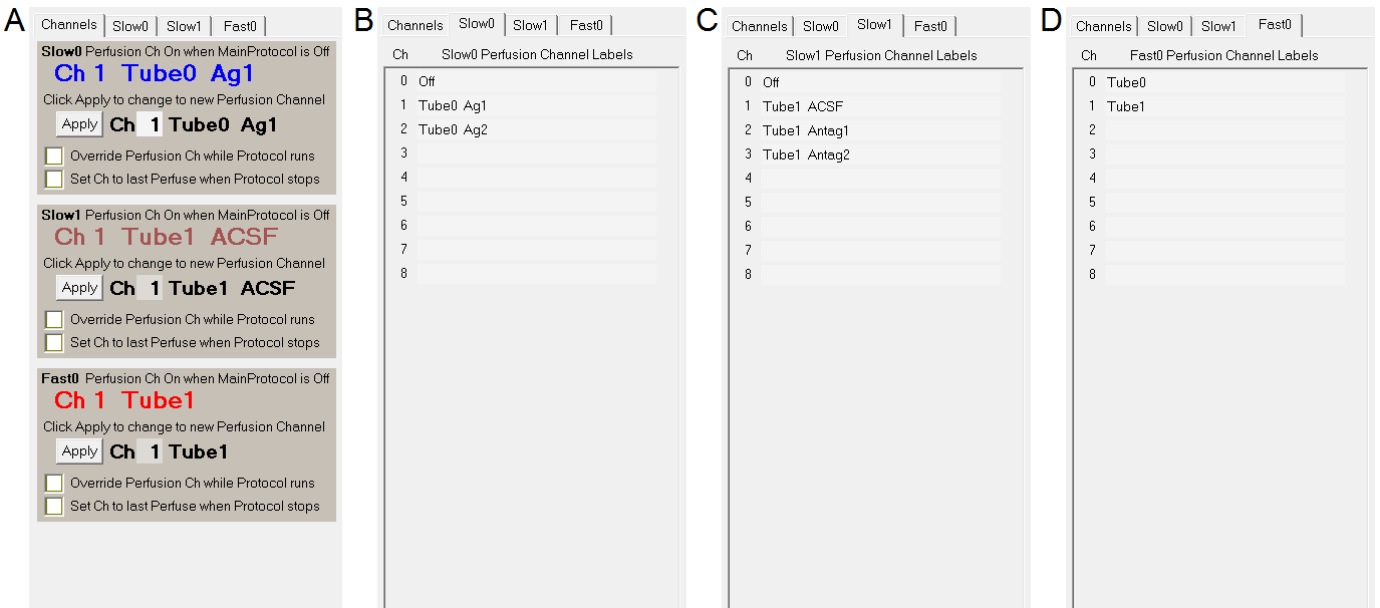

Fig. 10.4.1.3. Setting up the perfusion channel number and label information for the Dual-Line/Stepper example.
The way that WinLTP can control a Dual-Line/Stepper perfusion system is shown in Fig. 10.4.1.1. Slow0 Perfusion produces digital output on static Port1 to control one valve controller which in turn controls 4 to 16 valves. This Slow0 perfusion is for producing slow perfusion changes BETWEEN sweeps, and controls the perfusion solution coming out of Tube 0, which usually contains several **agonist** or agonist + antagonist test solutions.
Fig. 10.4.1.1. WinLTP control of Dual-Line perfusion and a Stepper. Slow0 and Slow1 Perfusion can control two valve controllers, and the Fast0 Perfusion controls the Stepper which controls whether solution from Tube 0 (blue) or Tube 1 (brown) is applied to the cell. The Fast0 Stepper therefore controls whether antagonist (Slow1) or agonist (Slow0) is applied.
Figs. 10.4.1.2, 10.4.1.3 and 10.4.1.4 show a simplified experiment involving only two tubes (Tube 0 controlled by Slow0 perfusion, and Tube 1 controlled by Slow1 perfusion), and a Fast0 controlled stepper to switch between Tube 1 and Tube 0.
Fig. 10.4.1.2. The ResourcesUsed tabsheet configured to run Dual-Line/Stepper perfusion. First choose how AO1 will be used. Next check the Slow0, Slow1 and Fast0 perfusion checkboxes. Finally choose the digital and analog output to control the Slow0 and Slow1 valve controllers and the Fast0 controlled stepper.
Next you have to set up the perfusion channel label information (Fig. 10.4.1.3, B-D). In the Slow0 (B), Slow1 (C) and Fast0 (D) channel labels, put in the appropriate perfusion channel labels. In this example, for Slow0 (the Tube 0 valve controller), the Slow0 Perfuse event in the Protocol Builder can either output agonist 1 or agonist 2 ('Tube0 Ag1' or 'Tube0 Ag2'). For Slow1 (the Tube 1 valve controller), the 'Slow1 Perfuse' event in the Protocol Builder can either output ACSF, antagonist 1 or antagonist 2 ('Tube1 ACSF', 'Tube1 Antag1' or 'Tube1 Antag2'). For Fast0, the stepper can switch between 'Tube0' or 'Tube1'.
Then in the Channels tabsheet (Fig. 10.4.1.3A), set which Slow0 and Slow1 perfusion channel will be on when the MainProtocol is off. Enter the Ch number by the 'Apply' button and then click the 'Apply' button. The perfusion channel number when the MainProtocol is off will be shown above the 'Apply' button plus
Fig. 10.4.1.4 shows running the Dual-Line/Stepper example. The 'Slow0 Perfuse' and 'Slow1 Perfuse' events in the Protocol Builder (upper left) show when the Slow0/Tube0 and Slow1/Tube1 solutions are changed. The MainProtocol starts out with the 'Slow1 Perfuse' event making the Slow1/Tube1 controller switch to Ch2, 'Antag1' (which it already was), and with the 'Slow0 Perfuse' event making Slow0/Tube0 controller switch to Ch1, 'Ag1', and then switches to Ch2 'Ag2'. Then the 'Slow1 Perfuse' event switches to Ch3, 'Antag2', and with the 'Slow0 Perfuse' event switches to Ch1, 'Ag1', and then Ch2 'Ag2'.
Fig. 10.4.1.4. Running the Dual-Line/Stepper example. The 'Slow0 Perfuse' and 'Slow1 Perfuse' events in the Protocol Builder (upper left) show when the Slow0/Tube0 and Slow1/Tube1 solutions are changed. The upper right panel shows the Slow1 Tube1 switch from 'Ch1 ACSF' to 'Ch2 Antag1' to 'Ch3 Antag2'. The next panel below shows the Slow0 Tube0 switch between 'Ch1 Ag1' and 'Ch2 Ag2'. The 'Continuous Acquisition' and the 'P0 Stimulus Sweep Acquisition' panel show recordings of the AO1 voltage shifts changing to Ch1 Tube1 or Ch0 Tube0. This results in the solutions switching between Antag1, Ag1 Antag1, Ag2, then Antag2 Ag1 Antag2 Ag2. The Sweep Stimulation bottom panels show change of AO1 (ie IC1) voltage output during a sweep. The -1V means to take whatever the current Fast0 output is BETWEEN sweeps (and when the MainProtocol is off), ie 1V or Ch1.
The Triple-Line/Stepper example (Fig. 10.4.2.4) is also similar to the Dual-Line/Stepper example (Fig. 10.4.1.4) except that after Slow0 Perfuse Tube0 Ag1 and Ag2 are rapidly perfused onto the cell by the Fast0 stepper changing from Ch1 to Ch0 and back to Ch1, then Fast1 Perfuse Tube2 Ag3 and Ag4 are rapidly perfused onto the cell by the Fast0 stepper changing from Ch1 to Ch2 and back to Ch1.